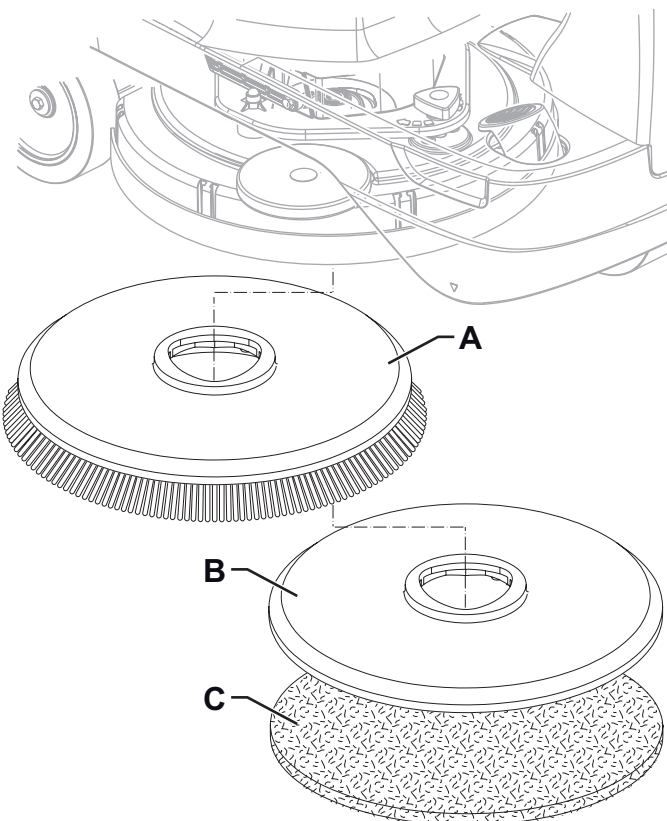

Figure 2
1. According to the kind of cleaning to be performed, the machine can be equipped either with the brush (A, Fig. 2) or the pad-holder (B) with pad (C) together with the appropriate deck.
2. Place the brush (A) or the pad-holder (B) under the deck (7).
3. Insert the operator key (41) in its slot.
4. Press the push-button (43) to lower the deck on the brush.
5. Press the switch (45) to engage the brush.
6. To remove the brush, the deck must be lifted by pressing the push-button (43), then press the release push-button (45).